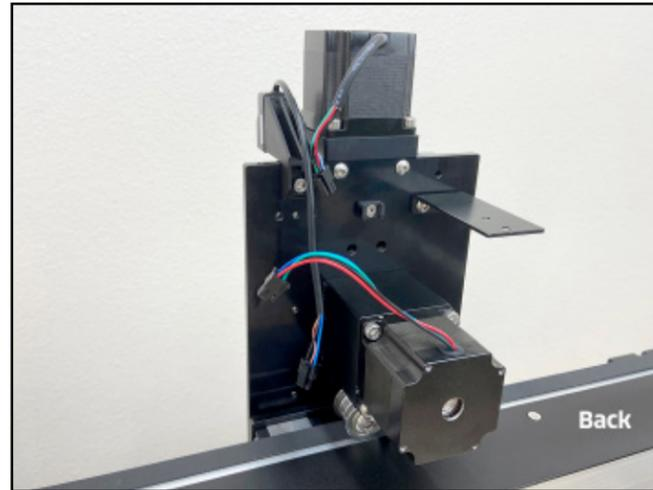

Figure 6-2
1. Position the drag chain head bracket on the back of X/Z assembly (see **Fig. 6-2**):
2. Use a 3mm hex key and two (2) M5×6mm BHCS to secure the bracket to the X/Z assembly. Fully tighten.